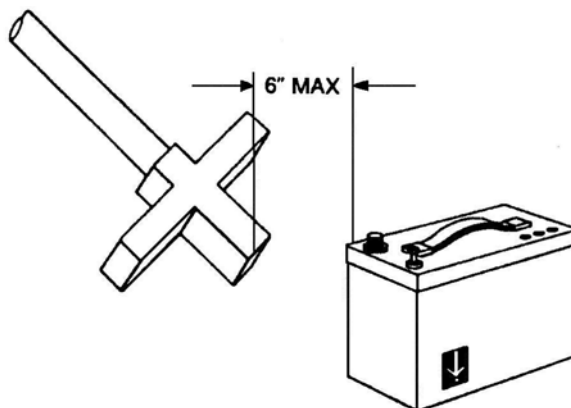

Figure 3-1: Position of the Receiver for Checkout Procedure, Step 6
- 6 Position the Receiver as shown in Figure 3-1. The digital signal strength indicator should display 950 or above.
- 7 With the Receiver MODE SWITCH in the line-tracing mode (third position), move the Receiver back from the Transmitter 2-5 feet. Point the Receiver at the Transmitter as in Figure 3-1, the Left/Right Guidance needle will be centered on the meter and the tone will be silent.